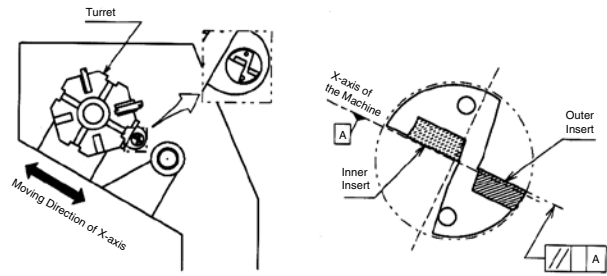
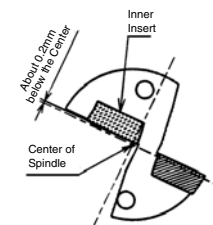

Fig.1 Installation to the Turning Lathe
Fig. 5 Front View of the Drill
- ① The top face of the outer insert should be parallel to the X-axis to allow for offset cutting.
- ② It is recommended to set the outer insert as shown in Fig.1 with the outer insert facing the operator.
When installing inner insert as shown in Fig. 1, it will be set around 0.2mm (.008") below the Center line of the Spindle. (Fig. 5)